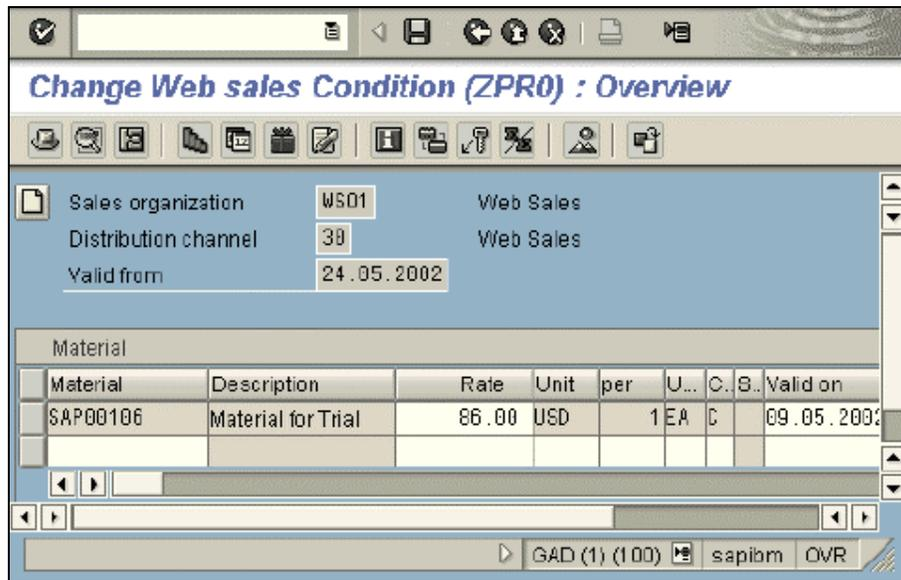

Figure 70: Creating the Web sales condition
- a. Select the last table and press enter. Make the required entries as shown in Figure 70 and save the records.